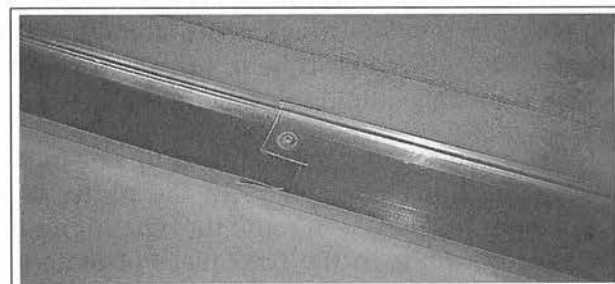

Figure 1-31. The ends of two sticks of bottom plate spliced together and shot down with one pin.
3. In walls running from floor to deck, hold the spliced joints cut into the top and bottom plate to the wall line and shoot them in place (Figure 1-31). As you can see, the ends of the plate are spliced and then shot down with one pin. This technique creates one continuous length of plate while saving one pin and load per joint.